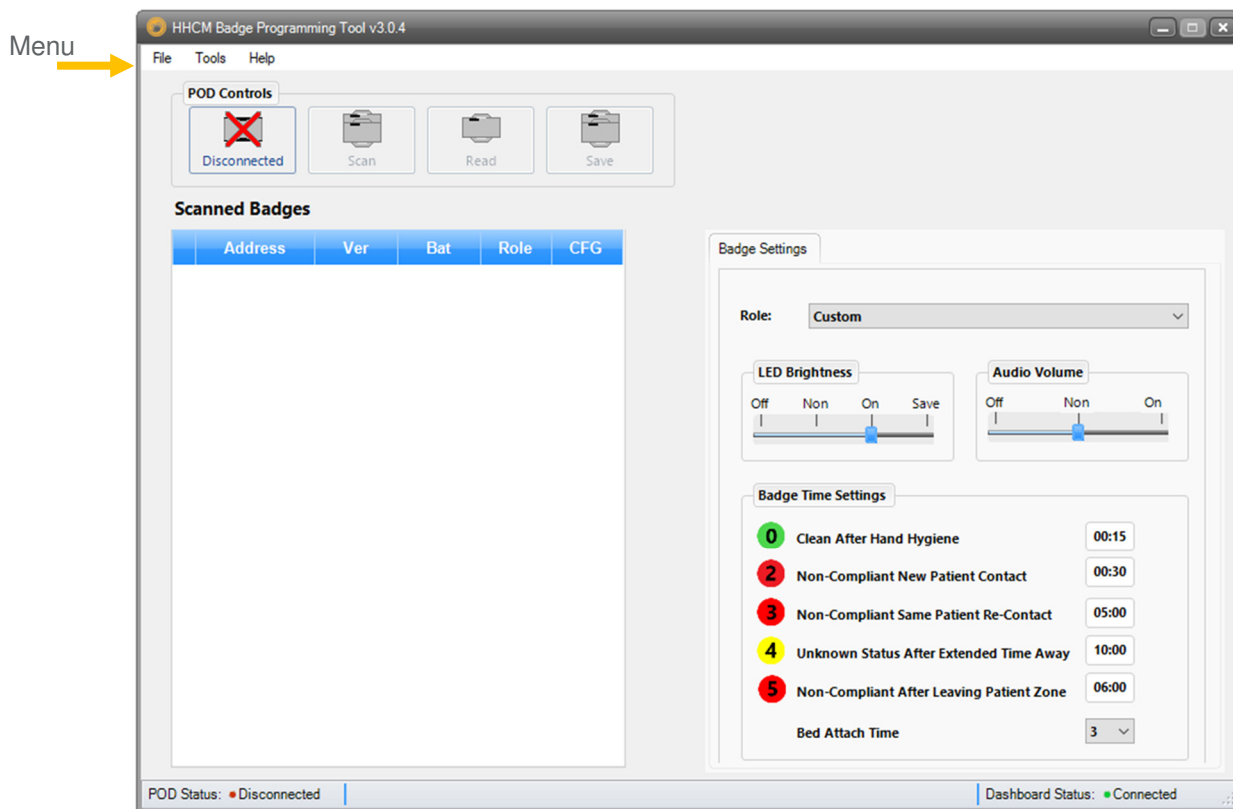

Figure 1. Main Screen
3.1 Menu Option (refer to Figure 1)